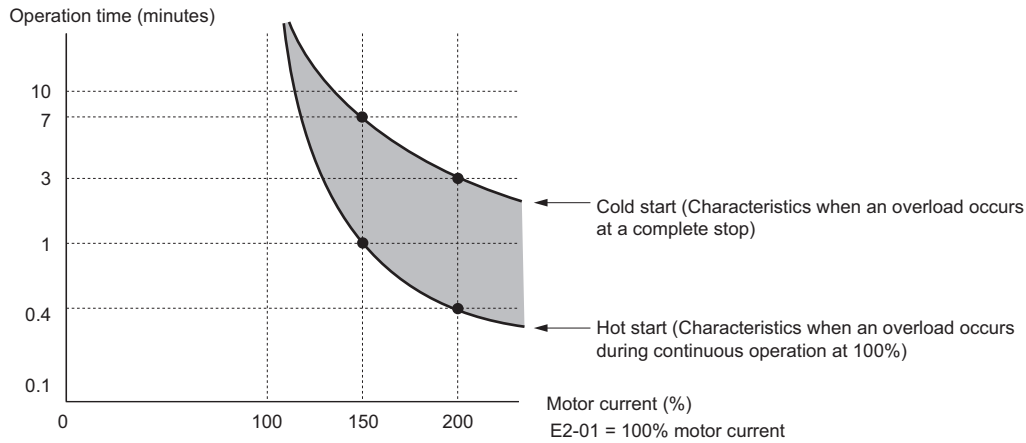

Figure 5.88 Protection Operation Time for General Purpose Motors at the Rated Output Frequency
- **Figure 5.88** shows an example of the electrothermal protection operation time using a general-purpose motor operating at 50 Hz with L1-02 set to one minute.